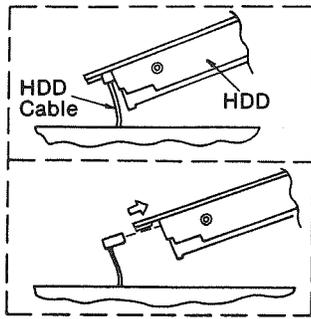

Figure 25
- (6) Carefully remove the HDD cable from the HDD as shown in Figure 25.